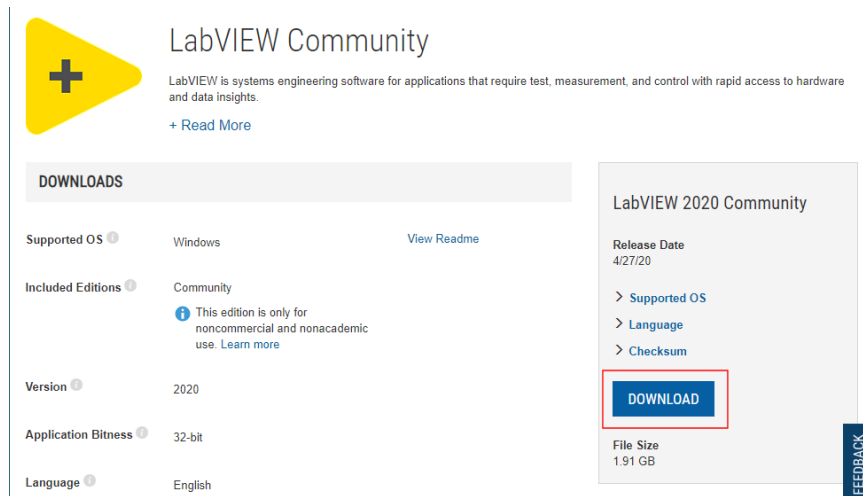

Figure 2-8 Download website
3. You will move to the download page. Click “DOWNLOAD” button at right of the page. You need to be logged in with the user profile you created (Figure 2-8).